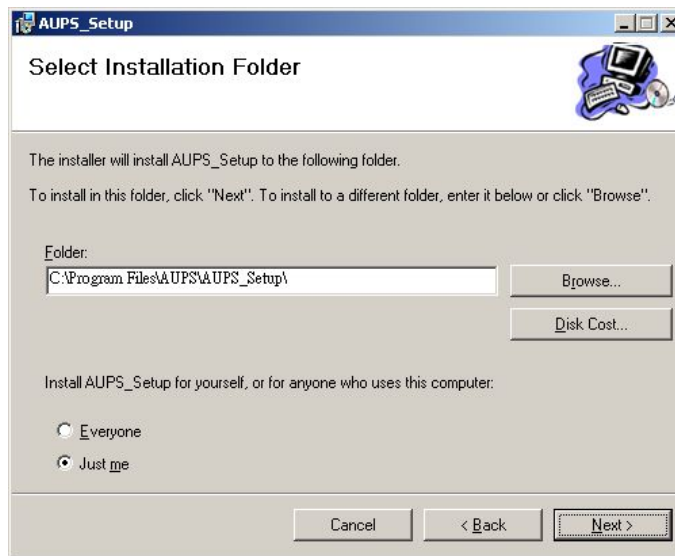

Figure 7-2: Select Installation Folder
Step 3: The Select Installation Folder window appears (**Figure 7-2**). Select a folder to install the application.